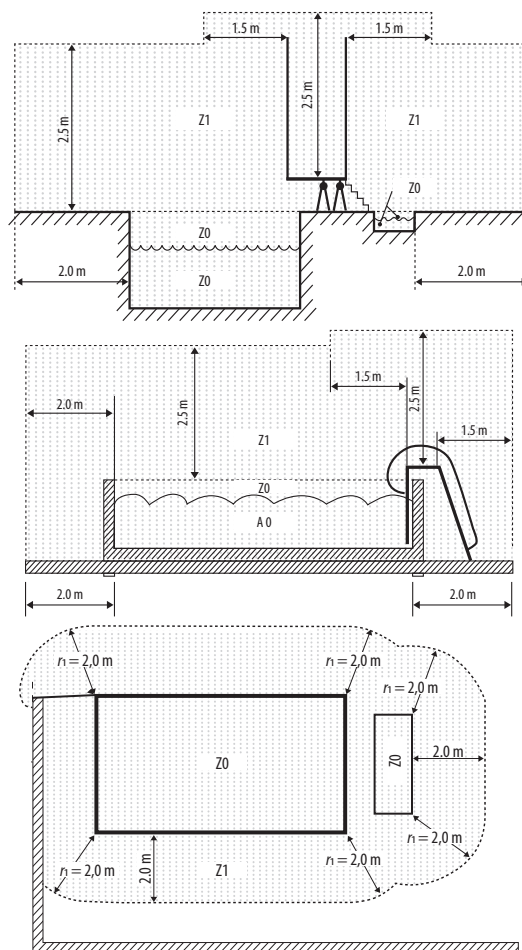

Figure 1 - **INSTALLATION ZONES** Marked zones: the pump cannot be installed here
- The pump cannot be installed in Zone 0 or Zone 1. You can see the diagrams in Figure 1 - Installation zones.